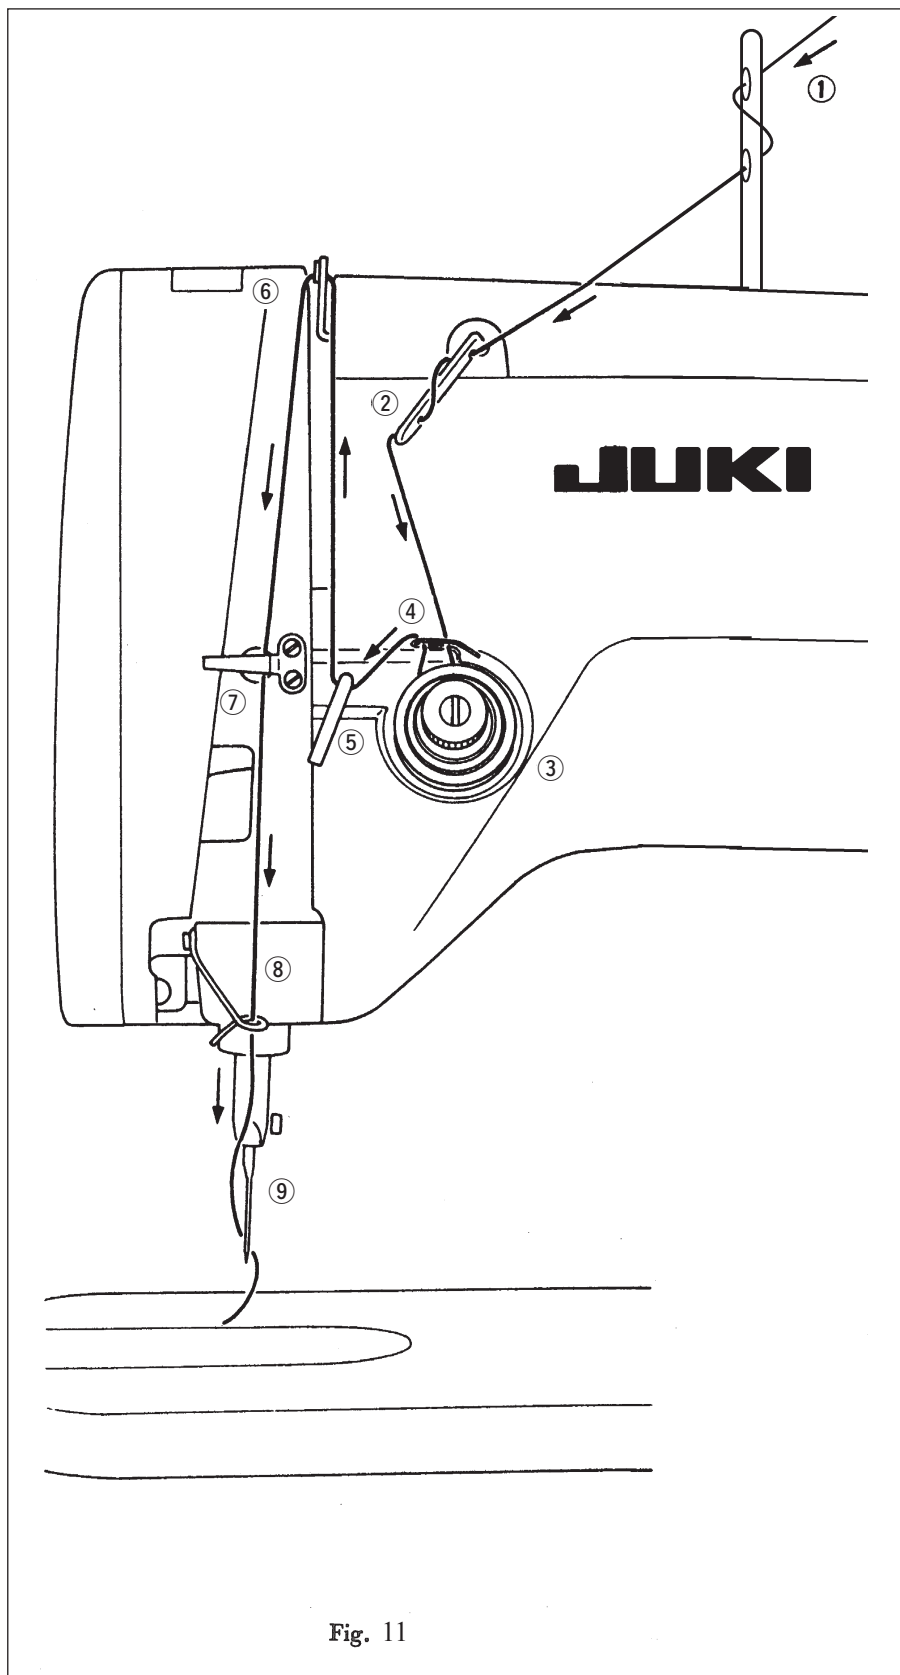

Fig. 11
Refer to Fig. 11 for the order of passing the needle thread. Start from the needle thread guide pin ①, to the needle eye ⑨ in order.
- ② Three-hole thread eyelet
- ③ Tension disc
- ④ Take-up spring
- ⑤ Tension post thread guide
- ⑥ Take-up lever
- ⑦ Side plate thread guide
- ⑧ Frame thread guide, lower
- ⑨ Needle eye